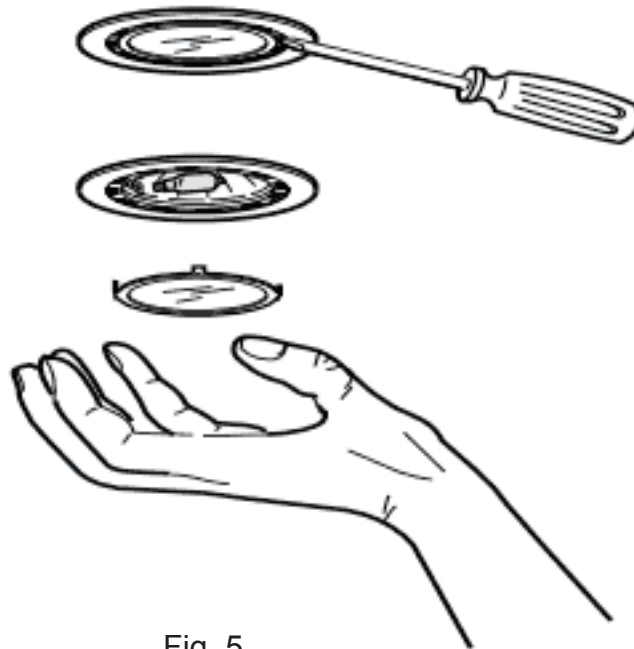

Fig. 5.
- Remove the lamp cover, use a screw driver as a lever. Fig. 5.